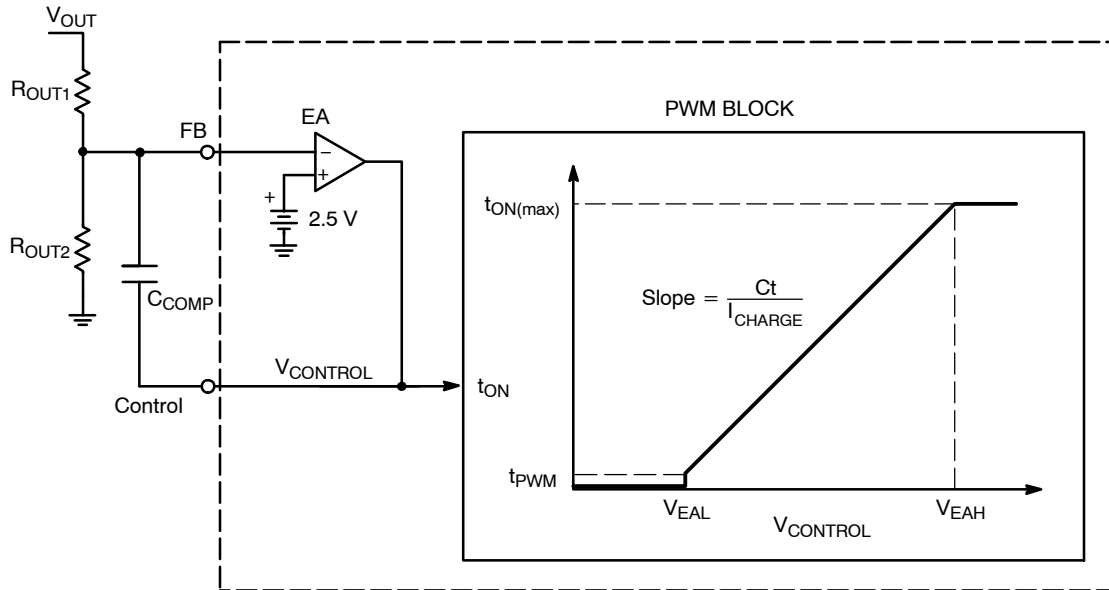

Figure 25. Error Amplifier and On Time Regulation Circuits
The NCP1606 is configured to regulate the boost output voltage based on its built in error amplifier (EA). The error amplifier's negative terminal is pinned out to FB, the positive terminal is tied to a  $2.5 \text{ V} \pm 1.6\%$  reference, and the output is pinned out to Control (Figure 25).